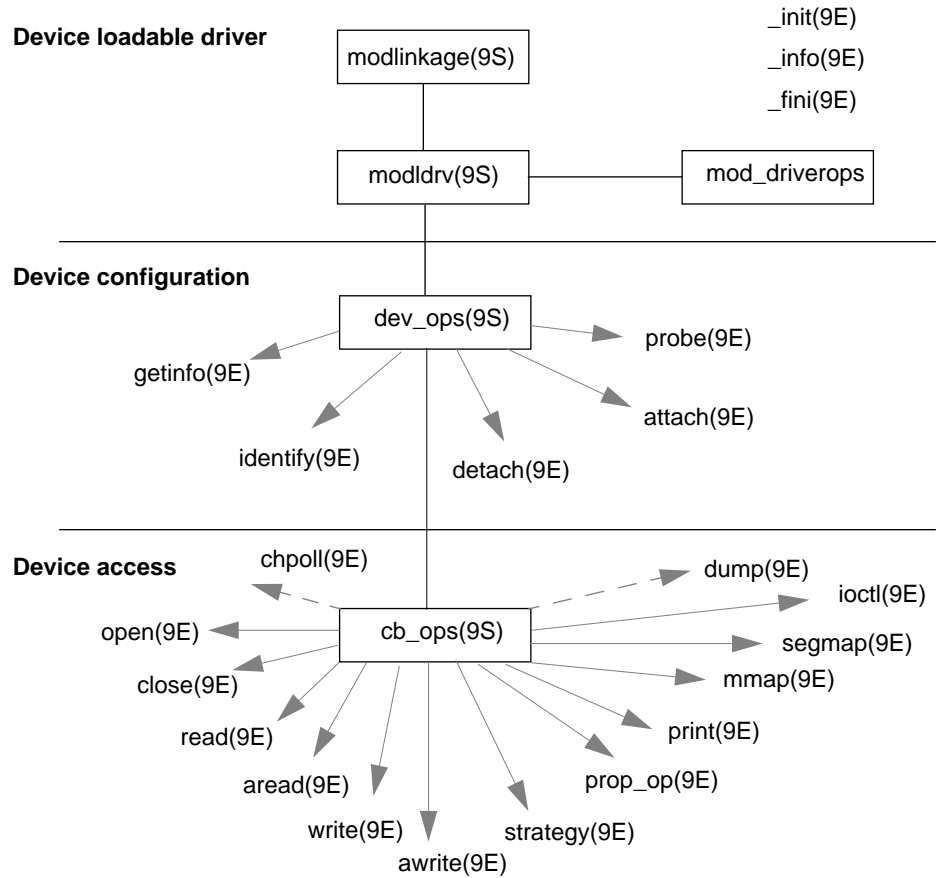

Figure 3-1 Device driver roadmap
Figure 3-1 shows data structures and routines that may define the structure of a character or block device driver. Such drivers typically include the following:
**Note** – The first two sections in Figure 3-1 are discussed in Chapter 5, “Autoconfiguration”; the third section is discussed in Chapter 8, “Drivers for Character Devices” and Chapter 9, “Drivers for Block Devices”.